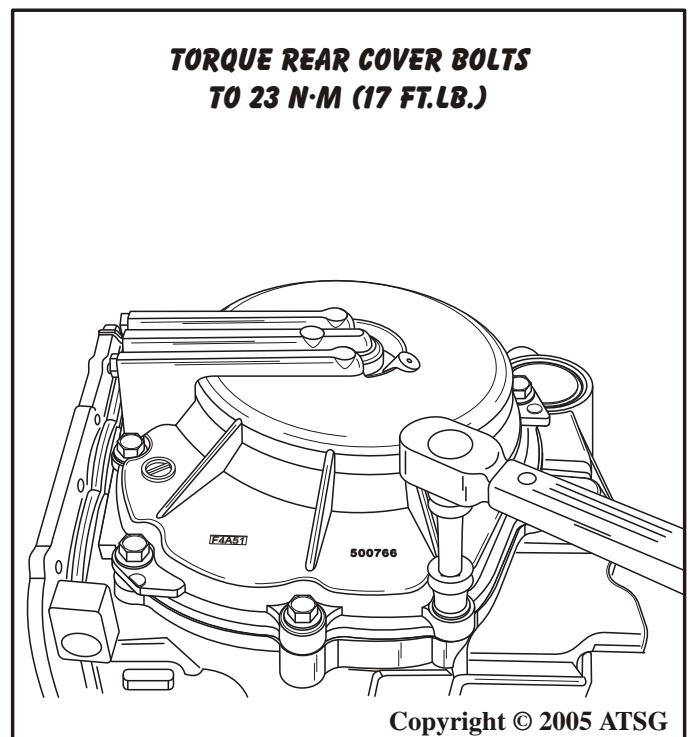

Figure 192
79. Torque the ten rear cover retaining bolts to 23 N·m (17 ft.lb.), as shown in Figure 192.